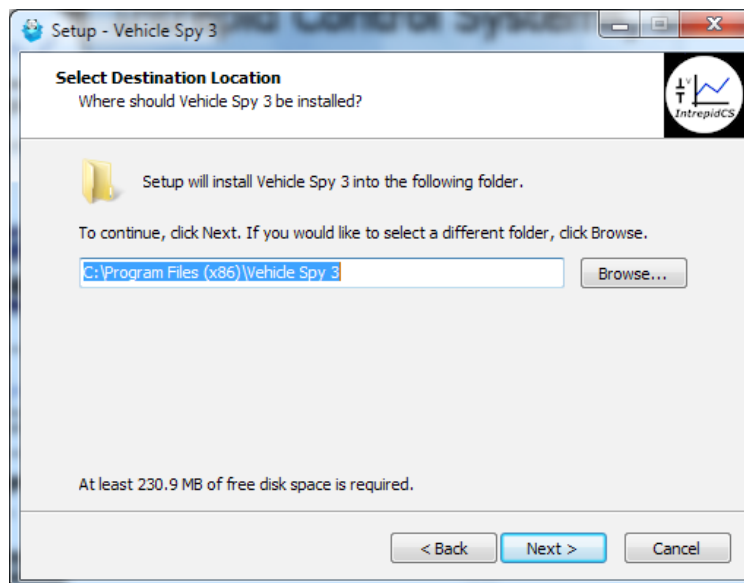

Figure 13: Choosing the Destination Location.
7. **Select Destination Location:** Choose where you want to install Vehicle Spy 3 (Figure 13). We normally recommend using the default location. Click .